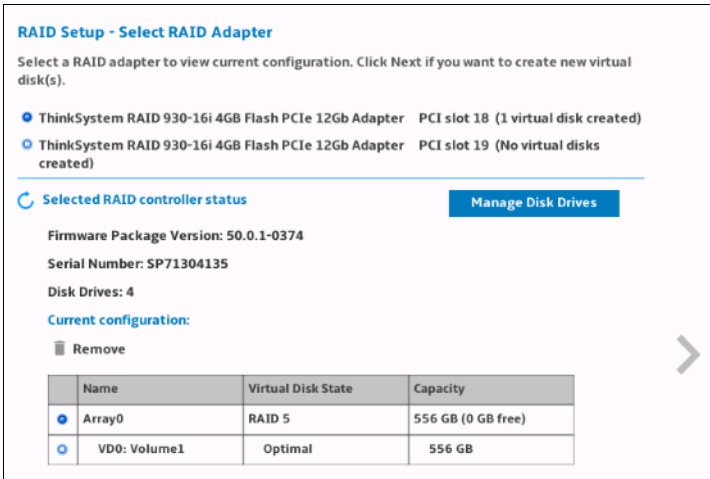

Figure 5-23 RAID Setup screen with newly created array
12. The array will now be visible from the RAID Setup screen, as seen in Figure 5-23.